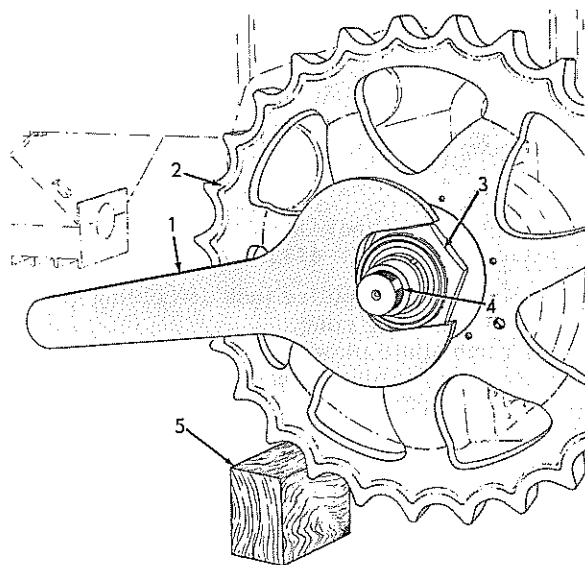
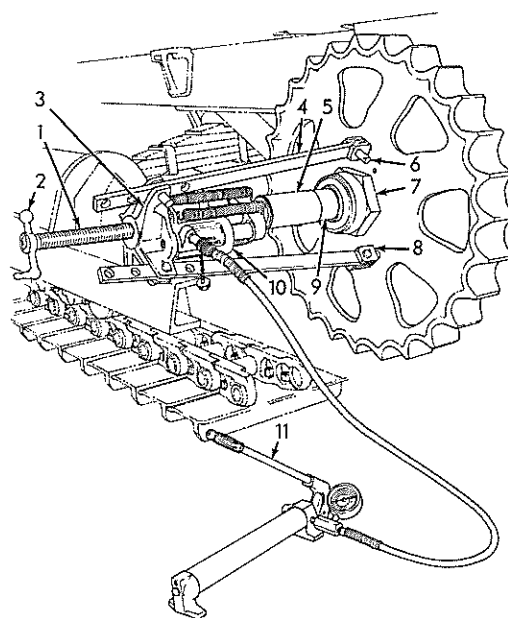

Fig. 4 Loosening Sprocket Retaining Nut
Fig. 5 Pulling Track Sprocket
7. Remove sprocket retaining nut lock. Place wooden block beneath sprocket to keep sprocket shaft from turning; use suitable wrench (Fig. 4) to loosen sprocket retaining nut. Back off sprocket retaining nut approximately 1/2", but do not remove. Use puller tools similar to those in Fig. 5, pull track sprocket until it is loose on the shaft. It may be necessary to shock rear side of sprocket with heavy hammer to break it loose. Remove puller tools and sprocket retaining nut; use care to prevent damage to outer seal components cemented to sprocket retaining nut. Remove track sprocket; use care to prevent damage to inner seal ring components and threads of sprocket shaft.